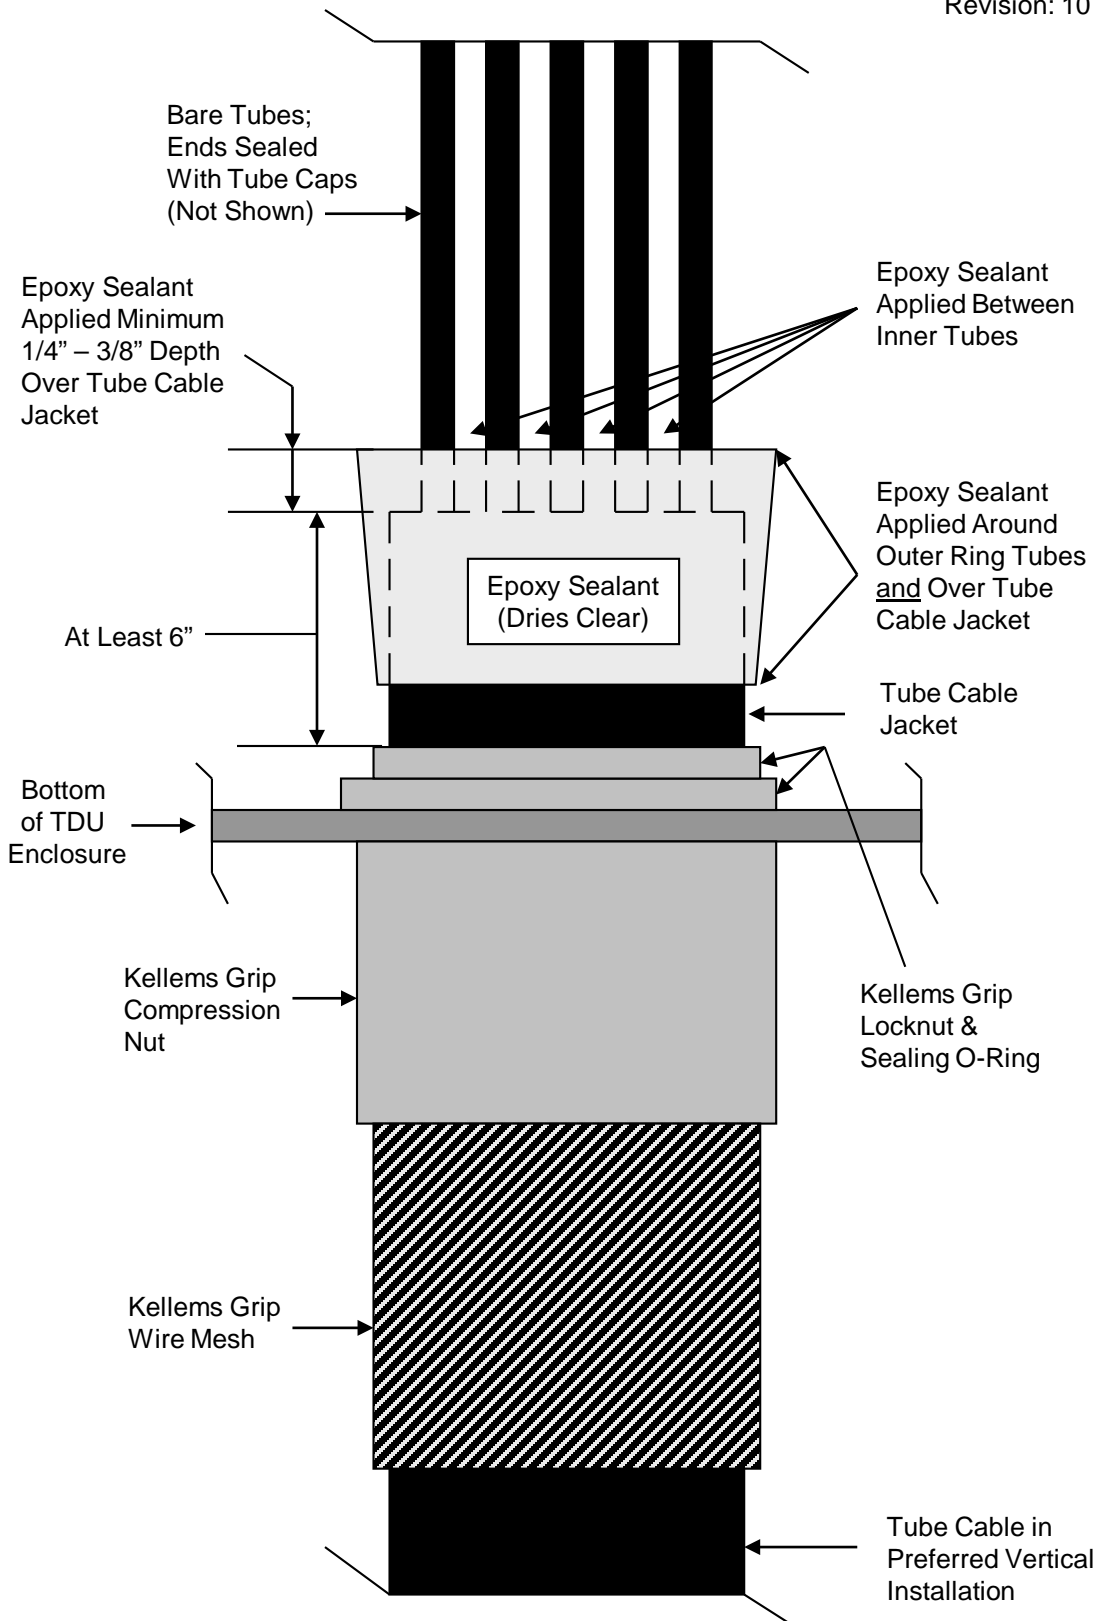

Figure 4
5.2 **See Fig. 4** for a typical equipment layout where a Liquid-Tight Kellems Grip secures a bottom-entry tube cable to a Class I boundary TDU and epoxy sealant is applied between the tubes and between the tubes and cable jacket.